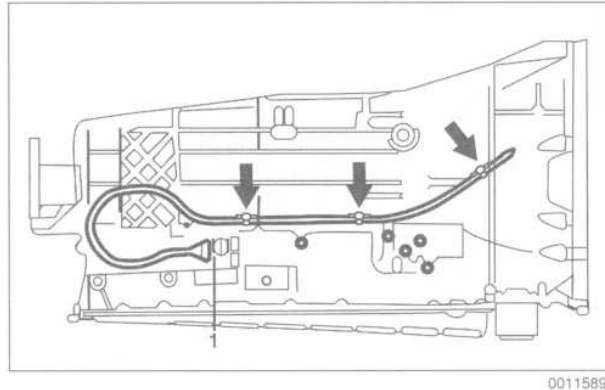

Fig. 14. Disconnect harness connector (1) and remove harness from clips (arrows).
- Disconnect main harness connector at transmission. Turn connector counter-clockwise and pull straight off. Unclip harness. See Fig. 14.